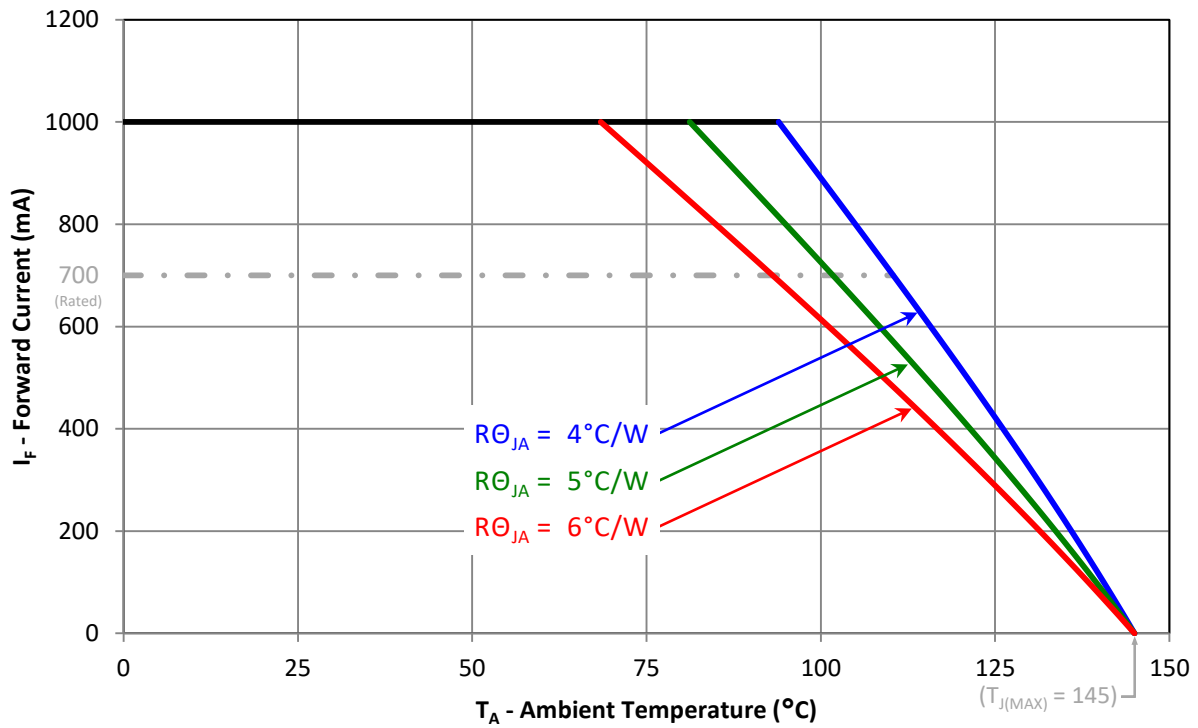

Figure 11: Maximum forward current vs. ambient temperature based on $T_{J(MAX)} = 145^\circ\text{C}$.
- Maximum DC forward current (per die) is determined by the overall thermal resistance and ambient temperature. Follow the curves in Figure 11 for current derating.